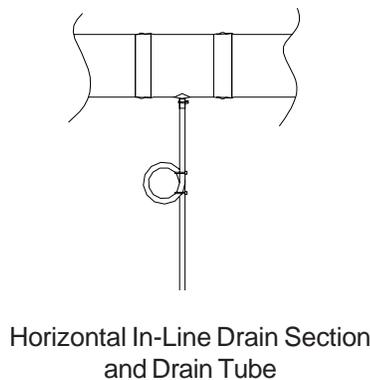

Fig. 6b
- Use the In-Line Drain Section for a straight horizontal run. Rotate the fitting so that the drain tube is as vertical as possible. (See Fig. 6b)